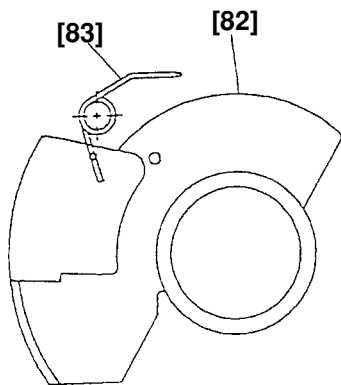

Fig. 24
(6) Installation of bracket (A) and (B) unit to the inner cover (Figs. 24 and 25)